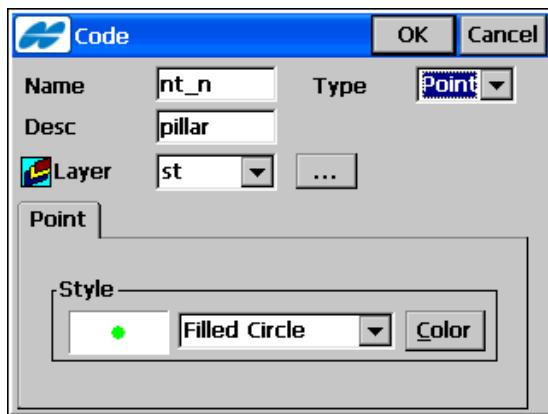
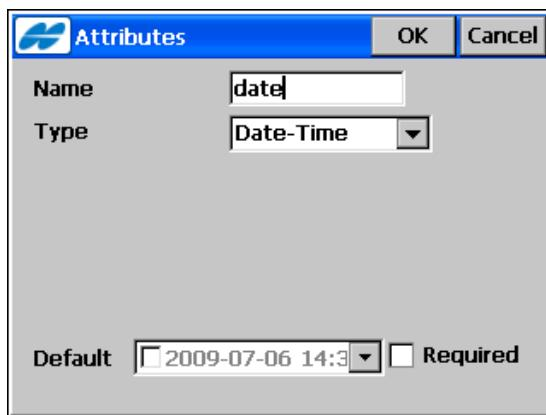

Figure 6-18. Edit Code - Point Type
Figure 6-21. Date-Time Attribute
- **Edit** – opens the applicable **Code** (Figure 6-18 on page 6-17) or **Attribute** (Figure 6-21 on page 6-19) screen with the properties of the highlighted entry.
On the **Code** screen (Figure 6-18 on page 6-17), set the following code parameters:
- *Point*: when *Point* is selected in the *Type* field, color and symbol attributes for the point displays (Figure 6-18 on page 6-17). The **Color** button opens the **Color** screen (see “On the Select Color” on page 6-11).
For **Date-Time** type, use the default (current date) and time for the code attribute or set the date and time from the drop-down list (Figure 6-21).